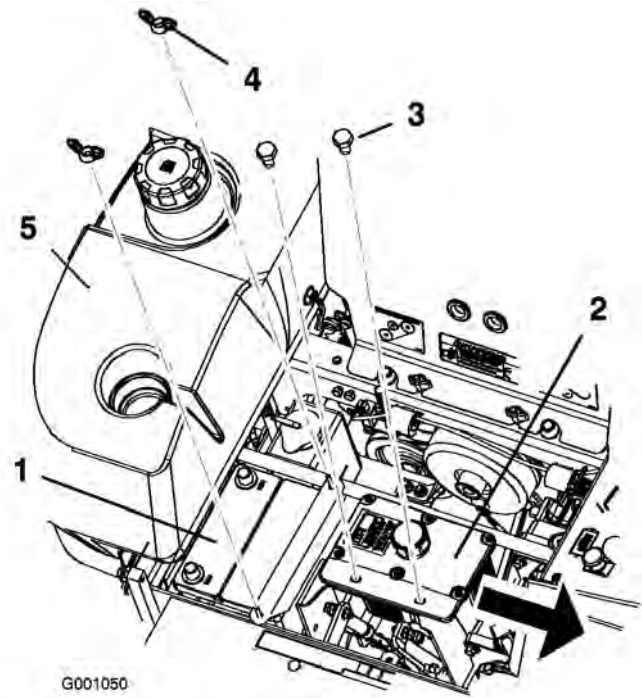

Figure 47
- Remove both wing nuts (1/4 inch) securing the battery clamp (Figure 47).
- Remove the two bolts holding the hydraulic tank in place (Figure 47).
- Secure battery with J-bolts, hold down clamp and 2 washers (1/4 inch), and 2 wing nuts (1/4 inch) (Figure 47).